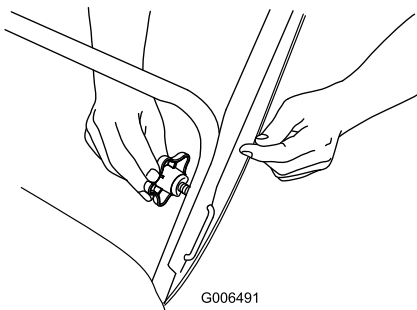

Figure 4
1. “U”-shaped handle lock (2) 2. Handle knobs
2. Insert the end of the “U”-shaped handle lock into the open hole in the handle and tighten the handle knobs until they are snug (Figure 4).